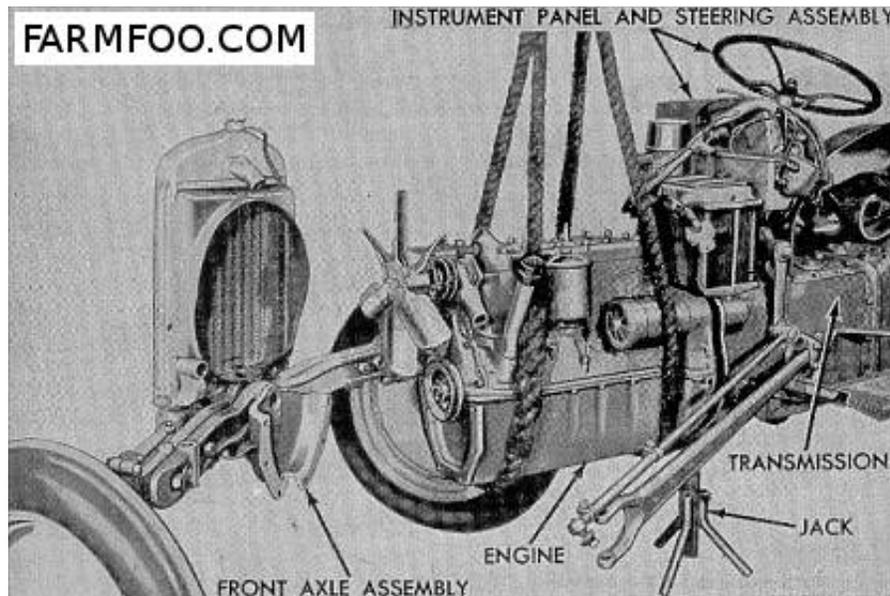

FIG. F013 – Method of removing engine on models 2N-8N-9N.
20. The engine and clutch assembly may be removed as a unit. Drain cooling system and oil pan. Remove hood, disconnect battery ground strap and cable at starter. Disconnect distributor and generator wires and cable at front end and swing wiring out of way. Block up under transmission and support engine with a chain hoist. Disconnect radiator hoses, clutch linkage and front axle support. Disconnect front end of radius rod and mating drag link on either side, then swing axle and front end assembly away from engine. Remove cap screws holding engine to transmission housing and separate engine from housing. Reinstall engine in reverse order of removal. See Fig. F013.
28. To remove timing gear cover, drain cooling system and remove hood and radiator. Block up under front end of engine behind axle support and remove bolts holding support in place. Disconnect front end of drag link and mating radius rod on either side of tractor and swing front end assembly away from engine as shown in Fig. F013. Remove distributor, fan and generator on tractors prior to serial 263844; on later tractors, generator removal is not necessary. Remove hand crank jaw and crankshaft belt pulley. Remove gear cover cap screws and pull cover off engine.